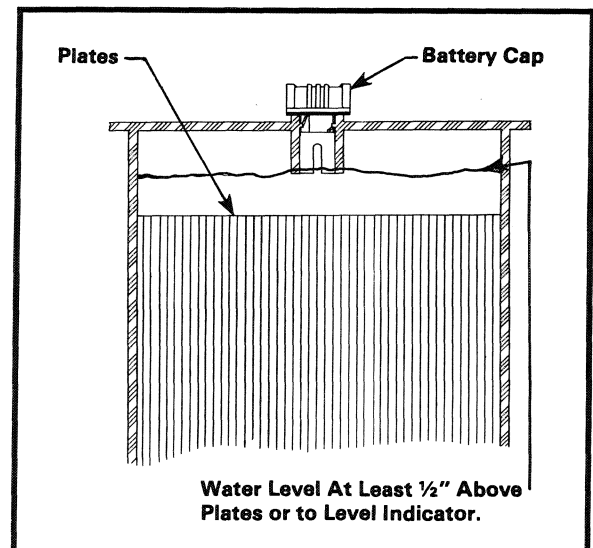

Figure 19
2. The water level in the batteries should be checked weekly (See Figure 19) for proper level). Add water only after charging unless the water level is below the top of the plates. In this case, add just enough water to cover the plates, charge and then check the level again. For best battery life, add only distilled water to the batteries.